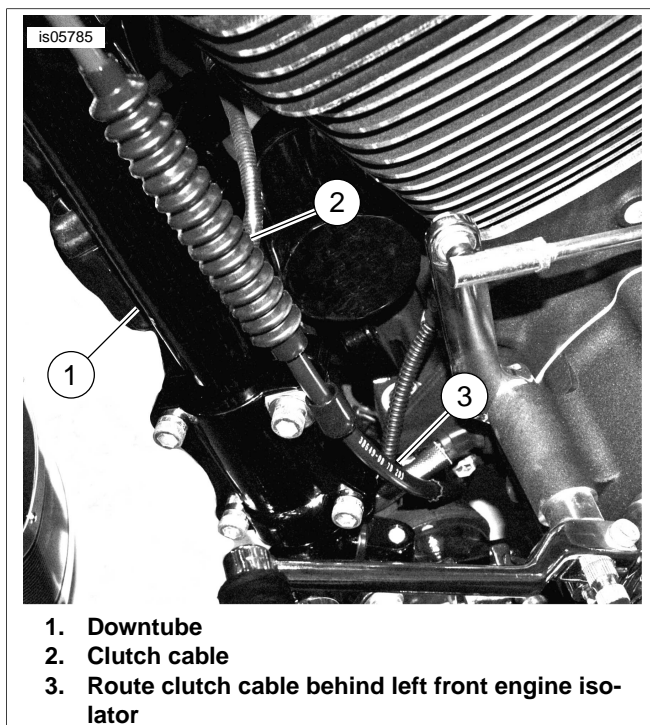
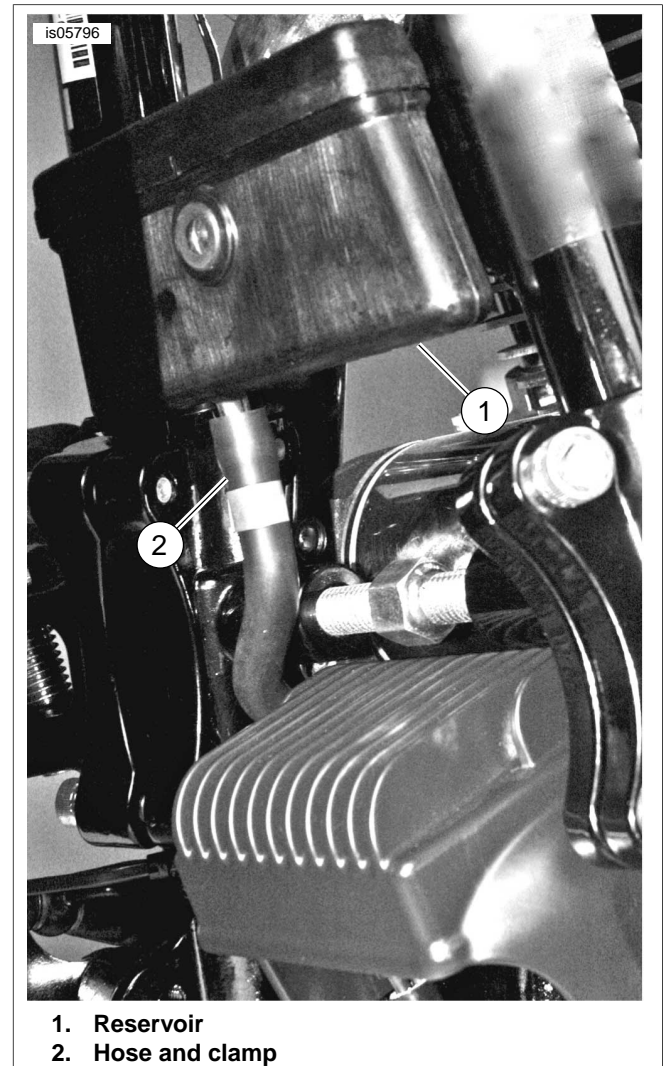
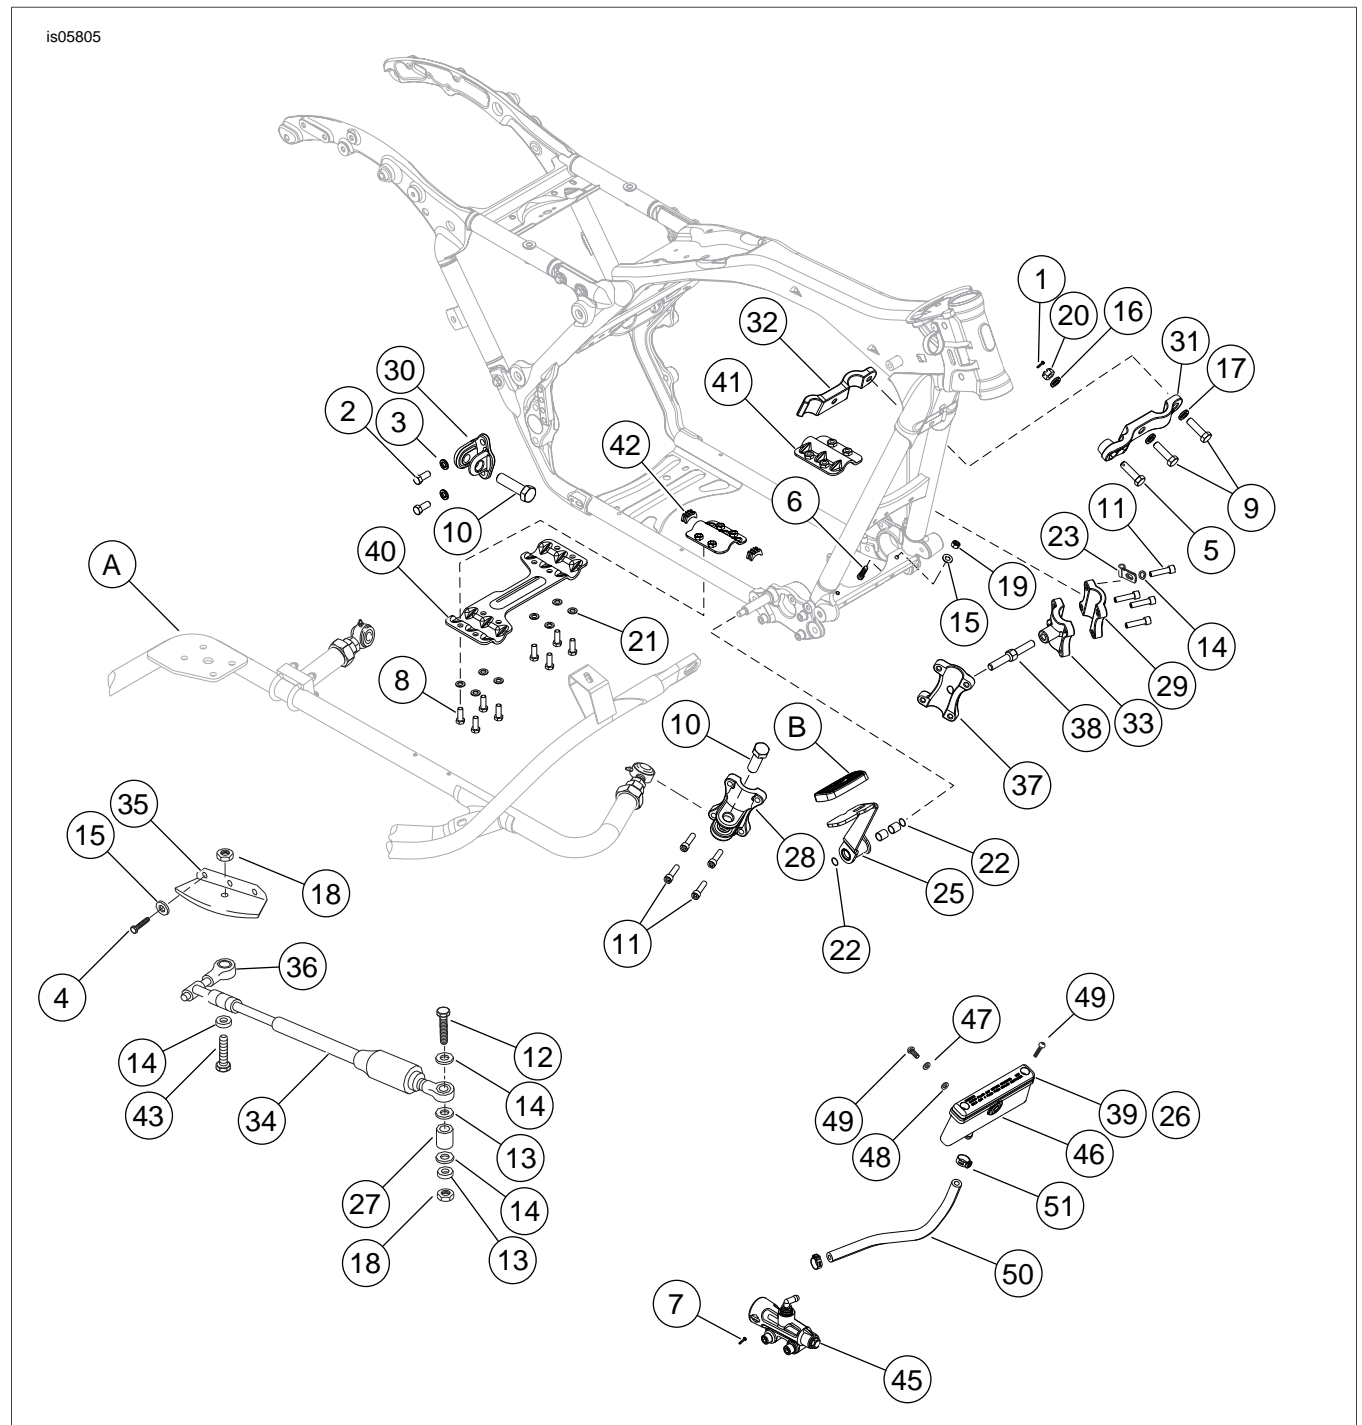

Figure 1. Route Clutch Cable
**Figure 8. Install Front Lower Mount**
Figure 16. Service Parts: Sidecar Connection Kit
5. See Figure 1. Route clutch cable down along left frame downtube (1).
1. See Figure 8. Completely thread the stabilizer adjuster (1) into the lower right stabilizer (3) and lower left stabilizer (7). The right stabilizer has right hand threads; the left stabilizer has left hand threads.
3. Position the right mounting bracket (6) on the right frame downtube opposite the right stabilizer (3) and insert four bolts (4) through mount and stabilizer. Finger-tighten bolts.
4. See Figure 16. Obtain the backing plate (29), four bolts (11) and flat washer (14). Install backing plate using four bolts, however use fourth bolt in upper right hand side with washer (14) and clamp (23) and secure clutch cable in place as shown (see Figure 1). Tighten bolts finger-tight.
5. Refer to the service manual and follow instructions to install voltage regulator using two hex head capscrews (6) (installed from below the frame), flat washers (15) and lock nuts (19).
1. See Figure 16. Obtain remote reservoir (46), two flat washers (48), two lock washers (47) and two socket head screws (49) from kit.
1. See Figure 16. Obtain the steering damper bracket (35), three screws (4) and three washers (15) from kit. Install the steering damper bracket to lower triple clamp. Tighten the screws to 96-120 **in-lbs** (10.8-13.6 Nm).
1. See Figure 16. Refer to the service manual. Install the sidecar master cylinder (45) and brake pedal assembly with stock bolts. Verify that the fitting on the sidecar master cylinder is rotated to point inboard. If it is not, gently rotate it inboard.
2. Install banjo bolt with seal washers (53) into master cylinder. Tighten the bolt to 13-15 ft-lbs (17-20 Nm).
3. See Figure 16. Install reservoir gasket (39), cover (26) and screws (49). Tighten the reservoir cover to 6-8 in-lbs (0.7-0.9 Nm).